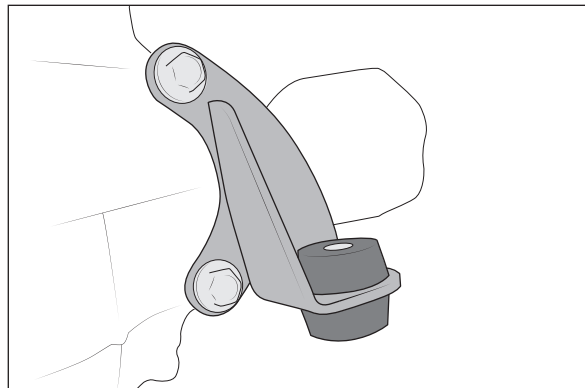

Figure 10
B. Install driver side mount using factory bolts and torque to 81 ft-lb (fig. 10).
- D. Install bushings into front differential brackets so that steps are inside hole in brackets. Insert 40mm sleeves into bushings (see fig. 10–11).